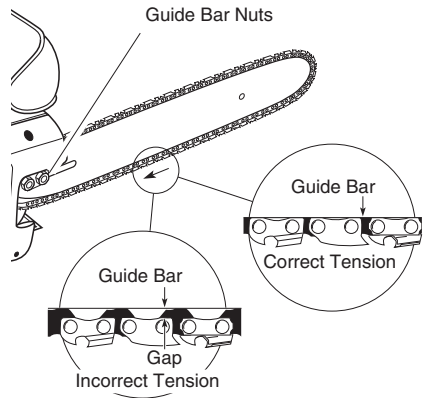

Figure 4 - Saw Chain Adjustment
1. Before adjusting chain, make sure guide bar nuts are only finger tight (see Figure 4). Also make sure adjusting block is in oval adjusting hole on guide bar.